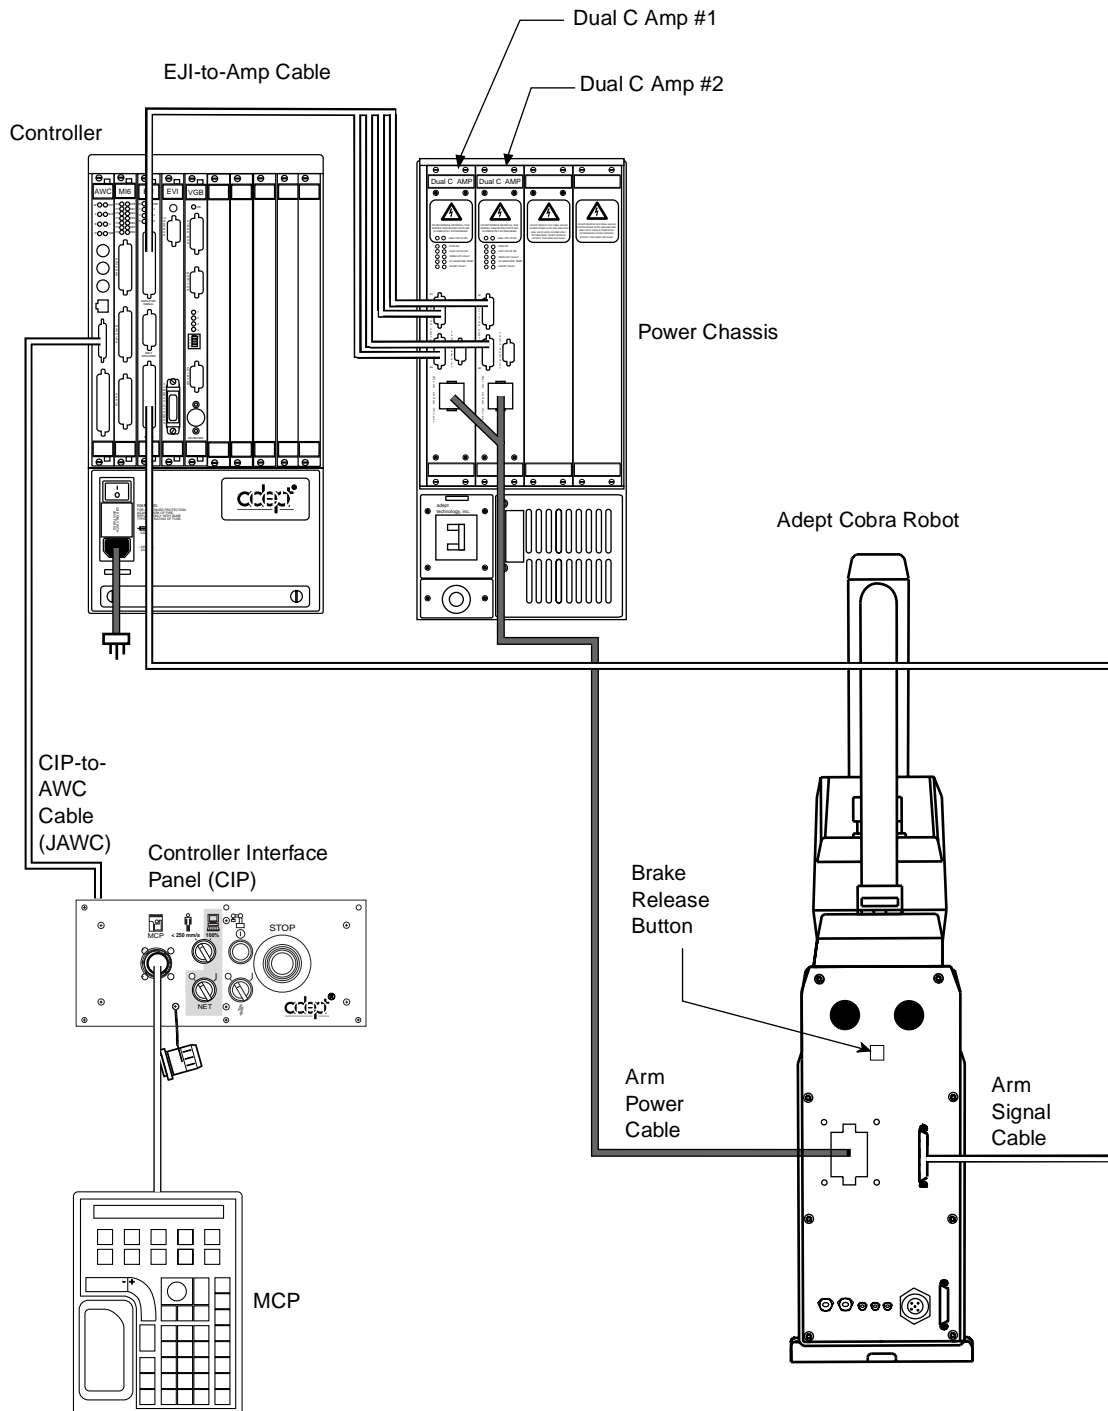
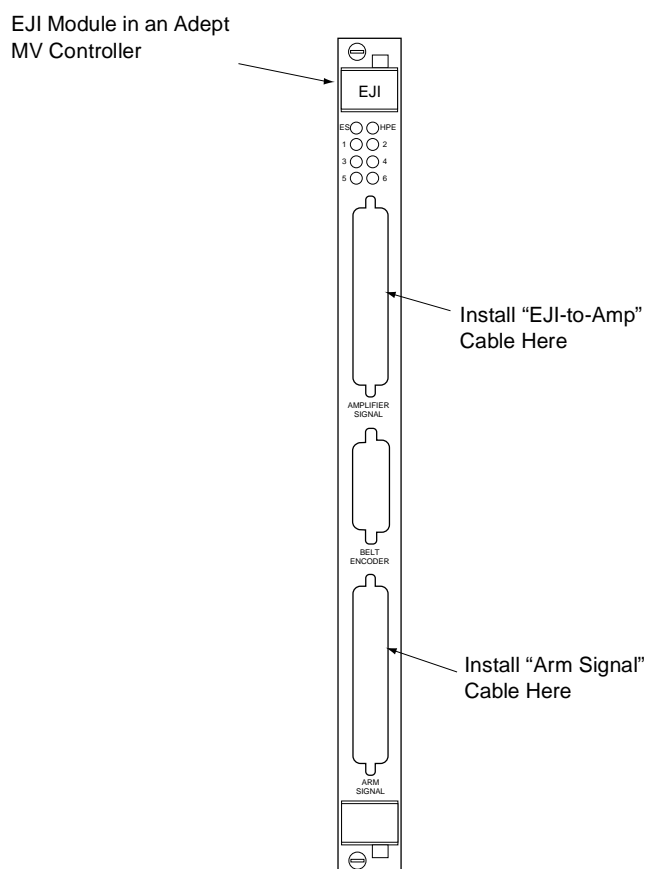

Figure 4-13. Adept Cobra System Cable Installation With MV Controller
Figure 4-17. Robot-to-EJI Cable Installation
This section covers the installation of all required power and signal cables for the robot and controller. Figure 4-13 shows the cabling between the robot and the control system. Table 4-1 on page 72 lists the lengths of all cables.
The cable between the robot and power chassis is called the Arm Power cable. The robot end of the cable has a single large rectangular Harting connector with four slotted screws. This cable carries high-voltage DC power to the motors. This independent DC circuit can be isolated only by using the circuit breaker on the front of the Adept PA-4 power chassis (see Figure 4-13 on page 69).
The cable between the robot and the EJI module in the Adept MV controller is called the Arm Signal cable. The robot and the controller each have a 50-pin D-sub connector (see Figure 4-13 on page 69).
2. Connect the other end (right-angle connector) of the Arm Signal cable to the Arm Signal connector (lower) on the EJI module. See Figure 4-17. Tighten the two captive screws securely.
1. Connect the cable end with the single connector to the connector marked “Amplifier Signal” (upper) on the EJI module. Tighten the screws. See Figure 4-13 on page 69 and Figure 4-17 on page 74.